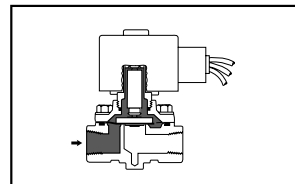

Figure 2A:
### Internal Pilot Operated Valves (Figures 2A, 2B)
- Floating diaphragm or piston which requires a minimum pressure drop across the valve to remain in the open position (Figures 2A, 2B).